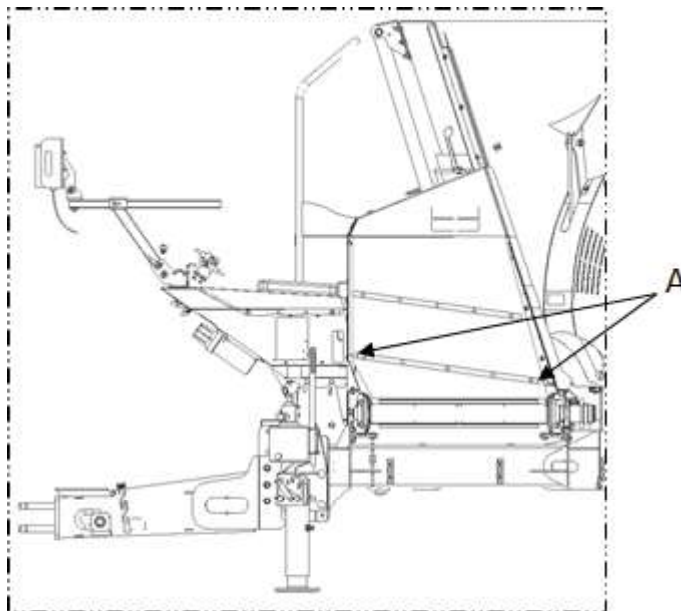

Figure 7 — Retaining Bars
- Attach the retaining bars to the transfer panels by putting two plastic hose clamps through the holes in the bars (Figure 7, A).